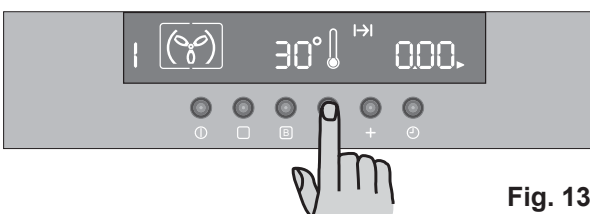

Fig. 13
- press button "-" to decrease the time until "0.00" is displayed (Fig. 13).